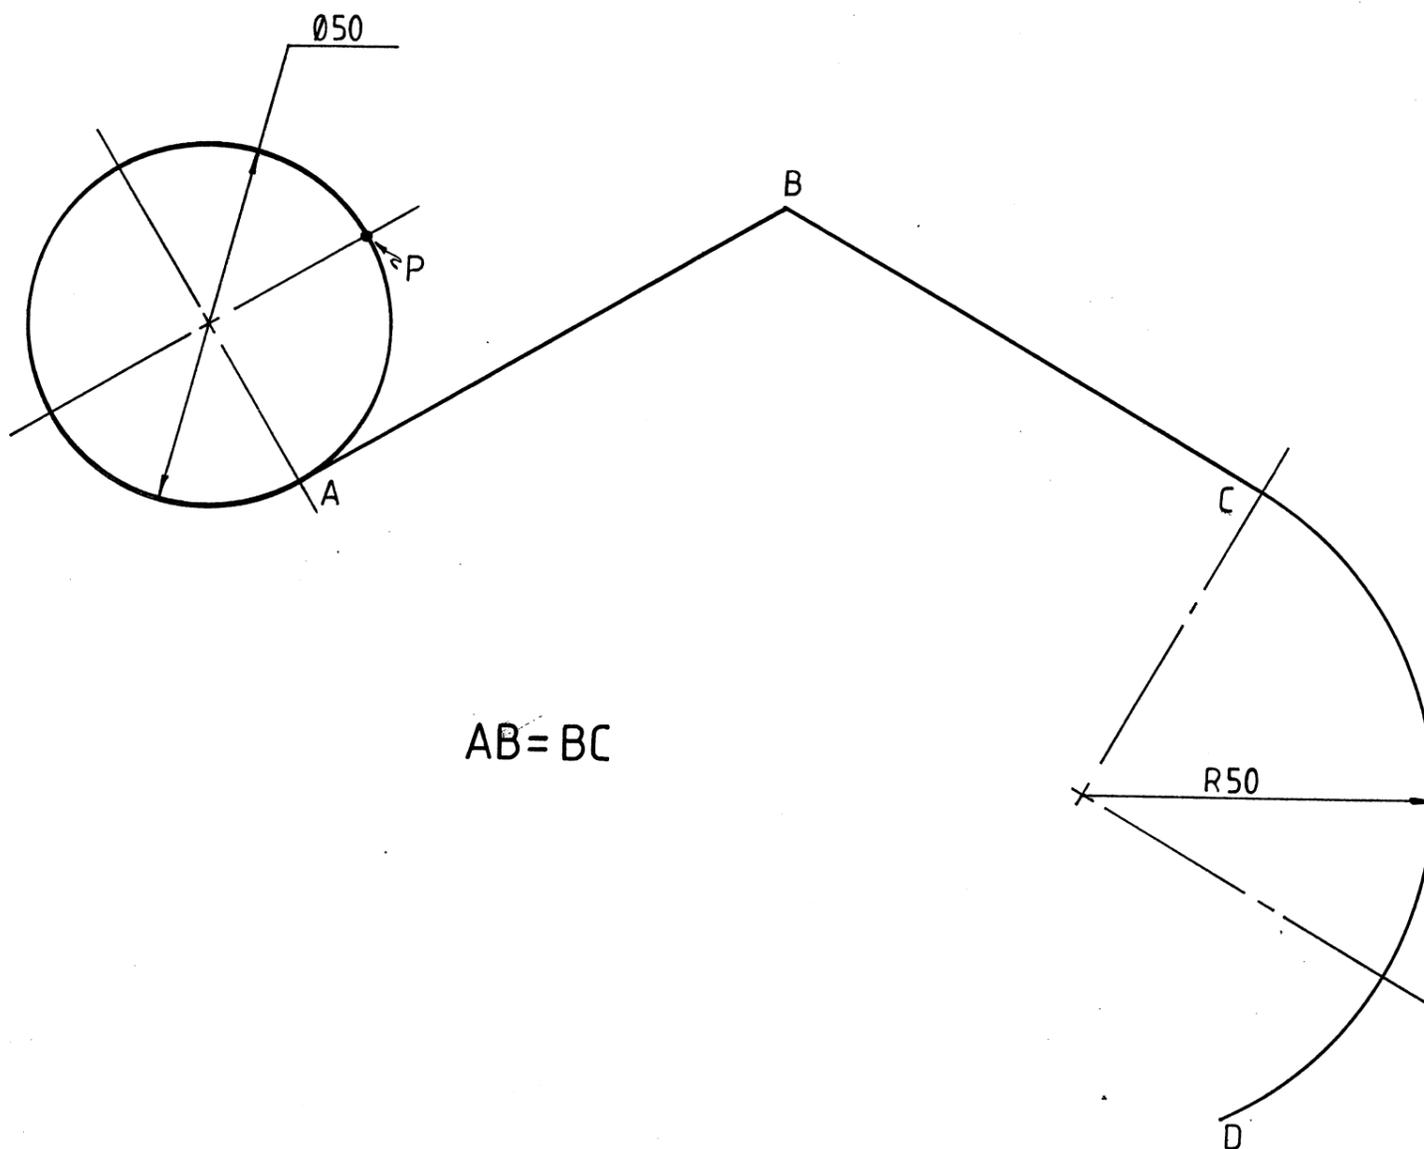

FIG.3
**Figure 3** shows a disc as well as the contour on which it rolls. Determine: